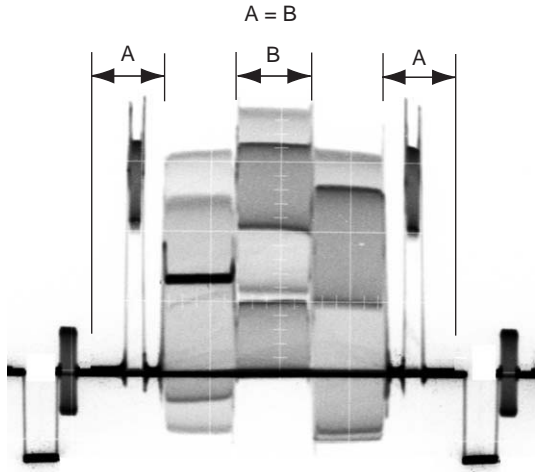
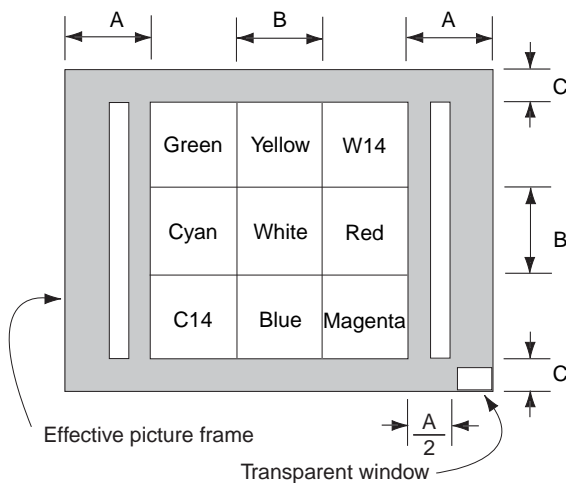

Fig. 6-1-20
Fig. 6-1-22
- 3) Upon successful completion of "1. Data Setting during Camera Adj.", "2. Picture Frame Setting" is executed. The following message is displayed, and then referring to Fig. 6-1-20 to Fig. 6-1-22, set the subject and click the **[OK]** button.